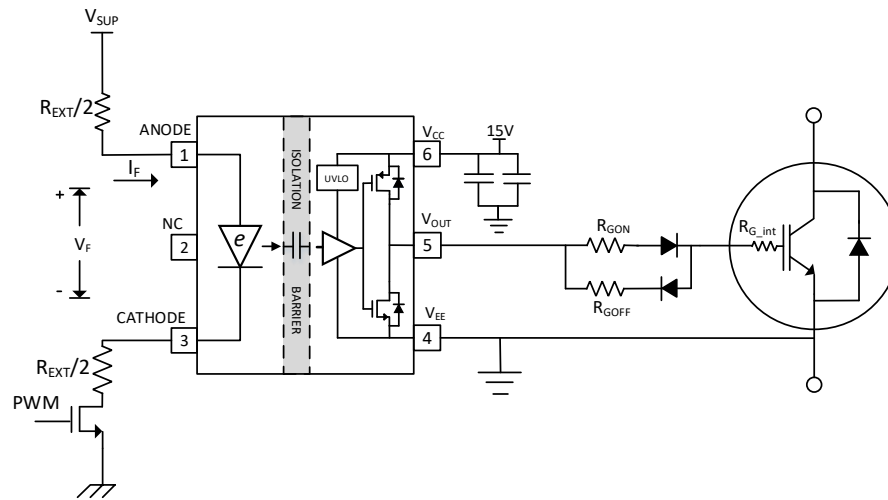
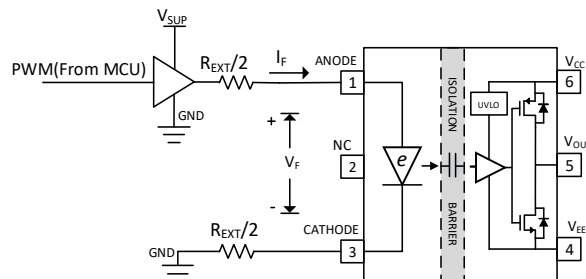
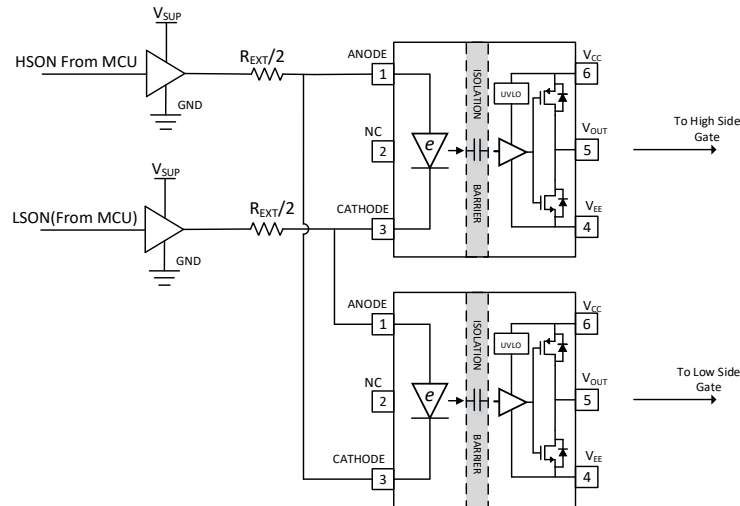

Figure 8.1 NSi6801 typical application circuit with NMOS driving input stage
Figure 8.2 NSi6801 typical application circuit with one buffer driving input stage
Figure 8.3 Interlock Protection using NSi6801
NSi6801 requires 7mA to 16mA bias current that flows into the e-diode for normal operation. The PWM from MCU is not suitable to provide such current directly and external circuit is needed. In Figure 8.1, one NMOS is used with split input resistors. Another input drive method is using one buffer, as shown in Figure 8.2. The details to calculate input drive parameters are in Chapter 8.3.
The recommended forward current range for NSi6801 is 7mA to 16mA. The value of input resistor, buffer supply voltage and buffer internal resistance influence the forward current, as shown in Equation (1). In Figure 8.1, RBuffer is the on-resistance of the external NMOS. In Figure 8.2, RBuffer is the buffer output impedance in output “High” state. In Figure 8.3, RBuffer is the summary of buffer output impedance in “High” and “Low” state.